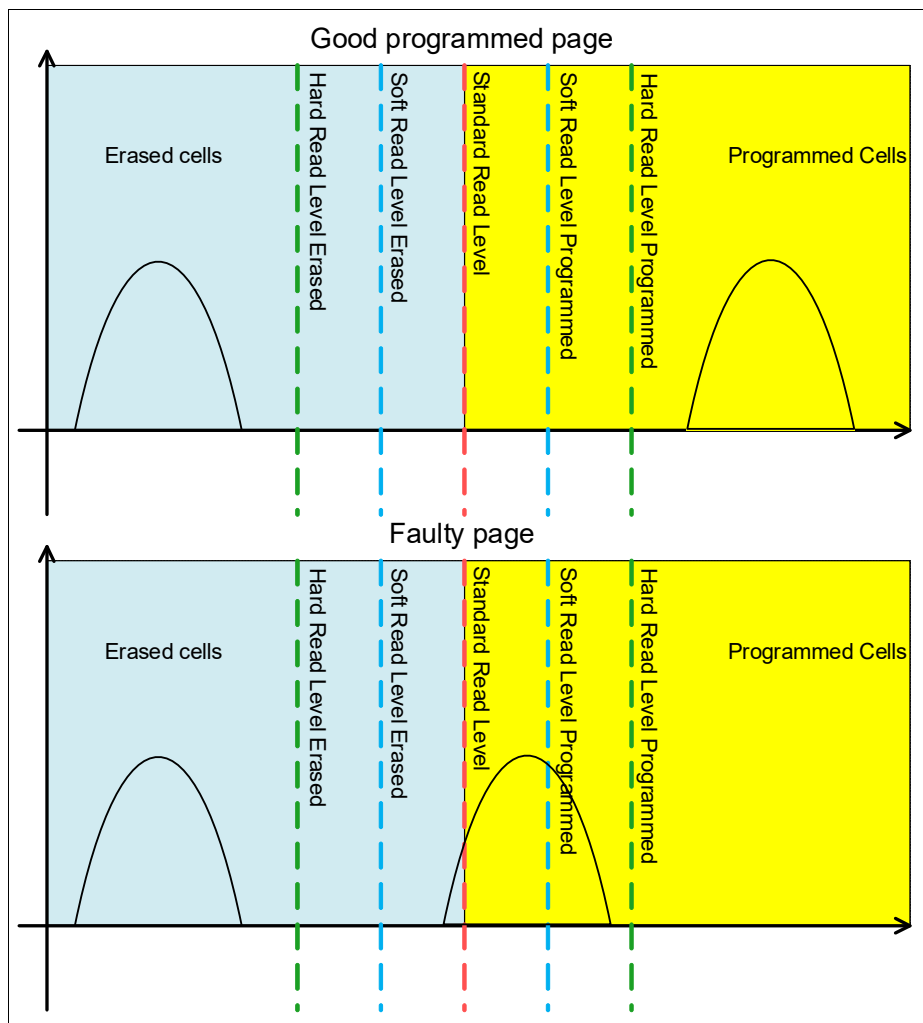

Figure 5-10 Read levels and faulty page
In order to detect pages whose mapblock is marginal towards the standard read level, the NVM finite state machine that performs the mapping initialization is triggered three times with three different read levels: standard read margin, soft read level erased and soft read level programmed (refer to Figure 5-10). As soon as the first incorrect mapping (faulty or multiple mapping) is detected by any of these three initialization sequences, depending on the reset type, the Service Algorithm is called.
The Service Algorithm is called by the NVM Data sector initialization in case incorrect mapping issues have been found. The Service Algorithm checks the data sector page by page reading the mapblocks with soft read levels (refer to Figure 5-10).
1. The SA checks the 2 pages linked to the double mapping with standard, soft and hard read levels to detect which one has better quality (more margin towards the standard read level, refer to Figure 5-10). The page with smaller margin is then erased.